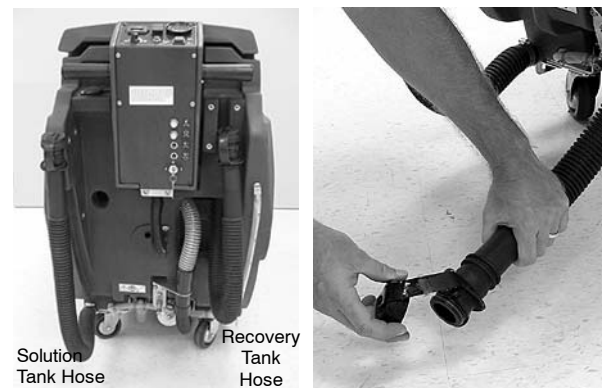

FIG. 17
2. Remove the drain hose cap and slowly lower the hose over the drain site (Figure 17). Lift the hose to stop the flow. The recovery tank drain hose is located on the right side and the solution tank drain hose is located on the left side.